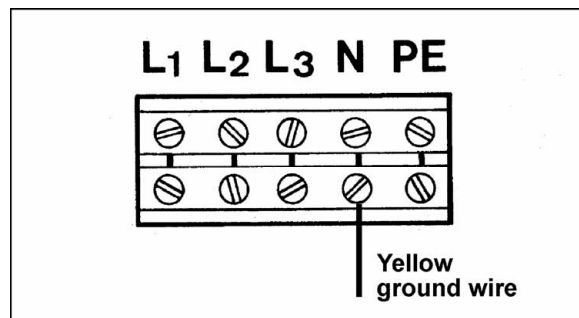

Figure 6
- Connect the three wires to the terminals L1, L2, L3. See Figure 6. If there is a neutral conductor (blue) it must be connected to the terminal N. Connect the ground wire (green) to the terminal marked with the ground symbol PE.